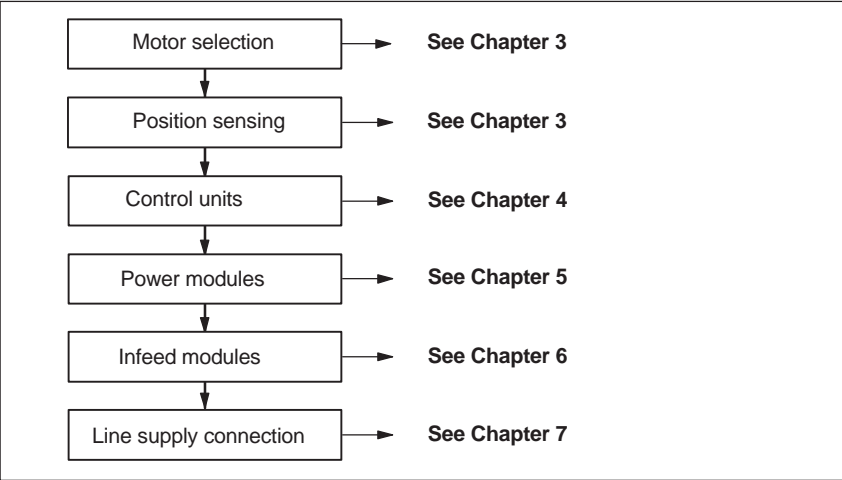

Fig. 1-4 Selecting components
- Phase 1 Selecting the components (refer to Fig. 1-4)